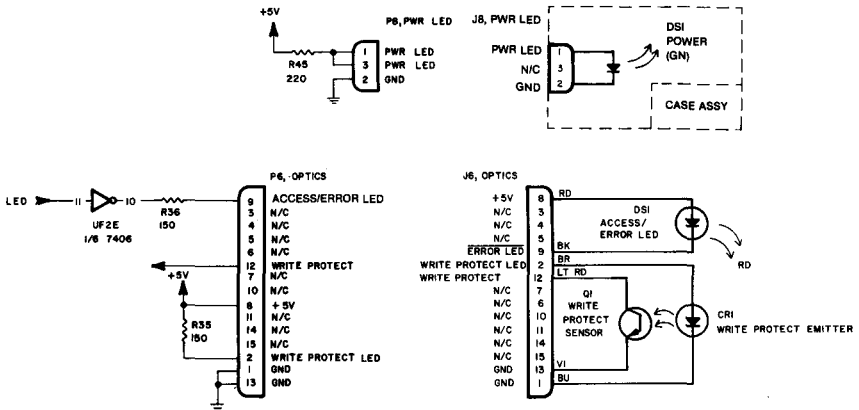

Fig. 7-21. Schematic of optics circuit, Model 1540.
7.1.10 Optics Circuit Electrical Theory (Refer to Figs. 7-21 and 7-22)